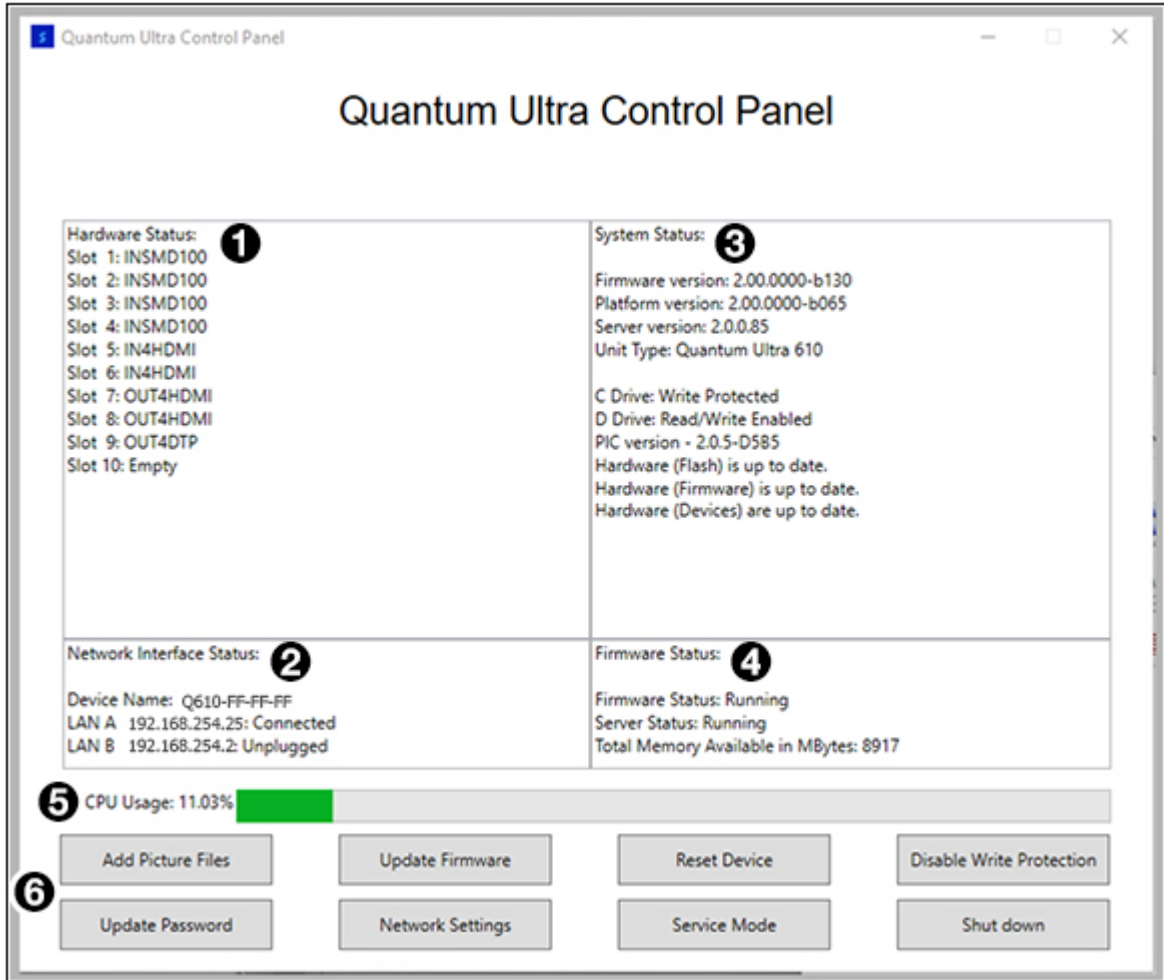

Figure 46. The Quantum Ultra Control Panel Main Window
4. The Quantum Ultra Control Panel window contains eight buttons that let you access the setup and management tasks for the Quantum Ultra (see figure 46, 6). Click one of these buttons to proceed to the desired task (see Buttons on the Control Panel on page 52).